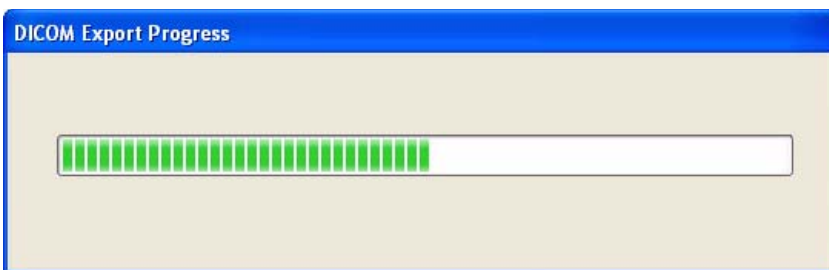

Figure 11-27 DICOM Export Progress Dialog
- A DICOM Export Progress dialog will be displayed showing the export progress (Figure 11-27).